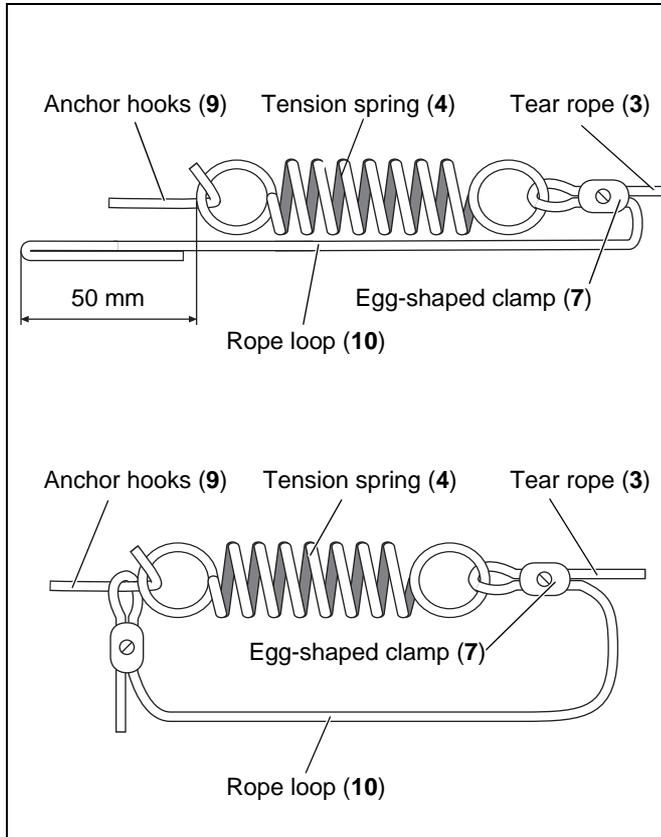

Fig. 5-9: Forming the rope loop
The Rope loops (10) are designed to limit the distance the Tear rope (3) travels when actuated and to prevent the Tension springs (4) from overextending (see fig. 5-9). The maximum extension of a Tension spring (4) is approximately 400 mm.
17. Form the Rope loop (10) on both Tension springs (4) as follows:
- a. Place the section of Tear rope (3) provided for the Rope loop (10) along the Tension spring (4) (see fig. 5-9 above).
- b. Form a fastening loop using the end of the Rope loop (10) which stops about 50 mm before the end of the Tension spring (4) (see fig. 5-9).
- c. Secure the Rope loop (10) using the Egg-shaped clamp (7) on the Anchor hooks (9) (see fig. 5-9 below).